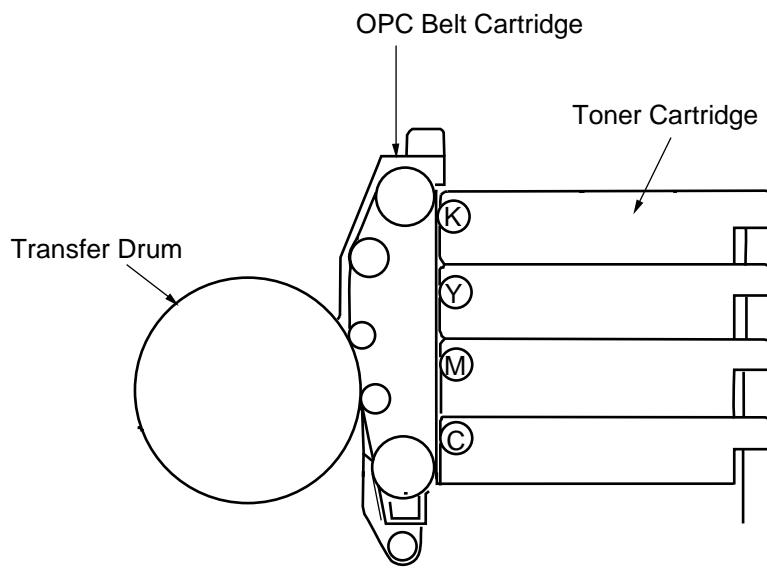

Fig.4-3
(2) Basic Color Printing Process
- (a) The printer has a Toner Cartridge of each color yellow, magenta, cyan and black as shown in Fig.4-3.